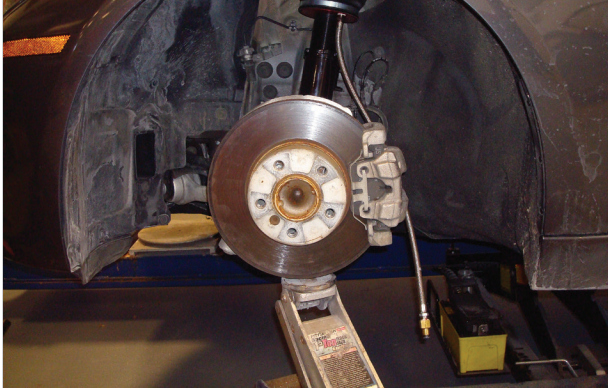

Fig. 20
3. Lift the knuckle assembly and align the camber plate into the upper mounting position. Torque camber plate M8 nuts to 30Nm (22 lb.-ft.) + 90 degrees (Figs. 20 & 21).